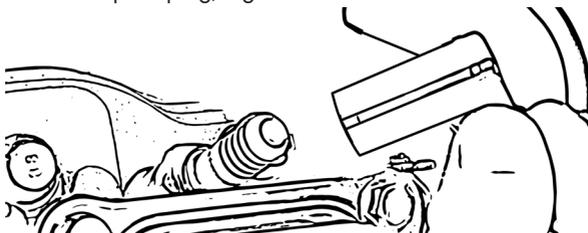

Figure 38
- Push the unit onto the spark plug, Fig. 38.